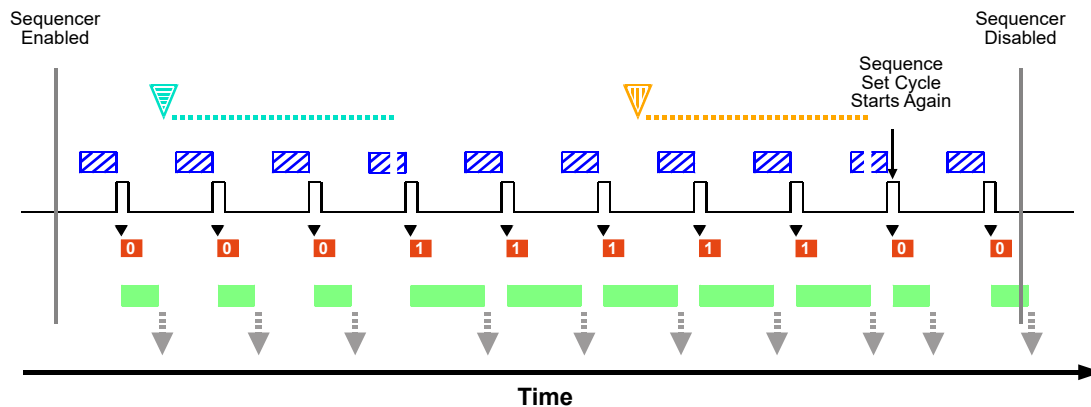

Fig. 58: Sequencer in Controlled Sequence Advance Mode with Disabled as the Sequence Control Source and Asynchronous Advance and Restart
The following use case (see also Figure 58) illustrates the operation of the sequencer in controlled sequence advance mode with Disabled selected as the sequence control source. Sequence set advance proceeds in ascending sequence set index numbers subject to asynchronous advance commands. After one sequence set cycle is complete, another one starts. Sequence set cycle restarts are subject to asynchronous restart commands.
- When the AsyncAdvance command becomes effective, the camera happens to be in "waiting for frame start trigger" status. The parameter values of the next sequence set, i.e. of sequence set 1, are loaded into the active set. Note that the camera briefly exits the "waiting for frame start trigger" status while the parameter values of sequence set 1 are loaded into the active set (see also Figure 58).
- When the AsyncRestart command becomes effective, the camera happens to be in "waiting for frame start trigger" status. The parameter values of sequence set 0 are loaded into the active set. Note that the camera briefly exits the "waiting for frame start trigger" status while the parameter values of sequence set 1 are loaded into the active set (see also Figure 58).